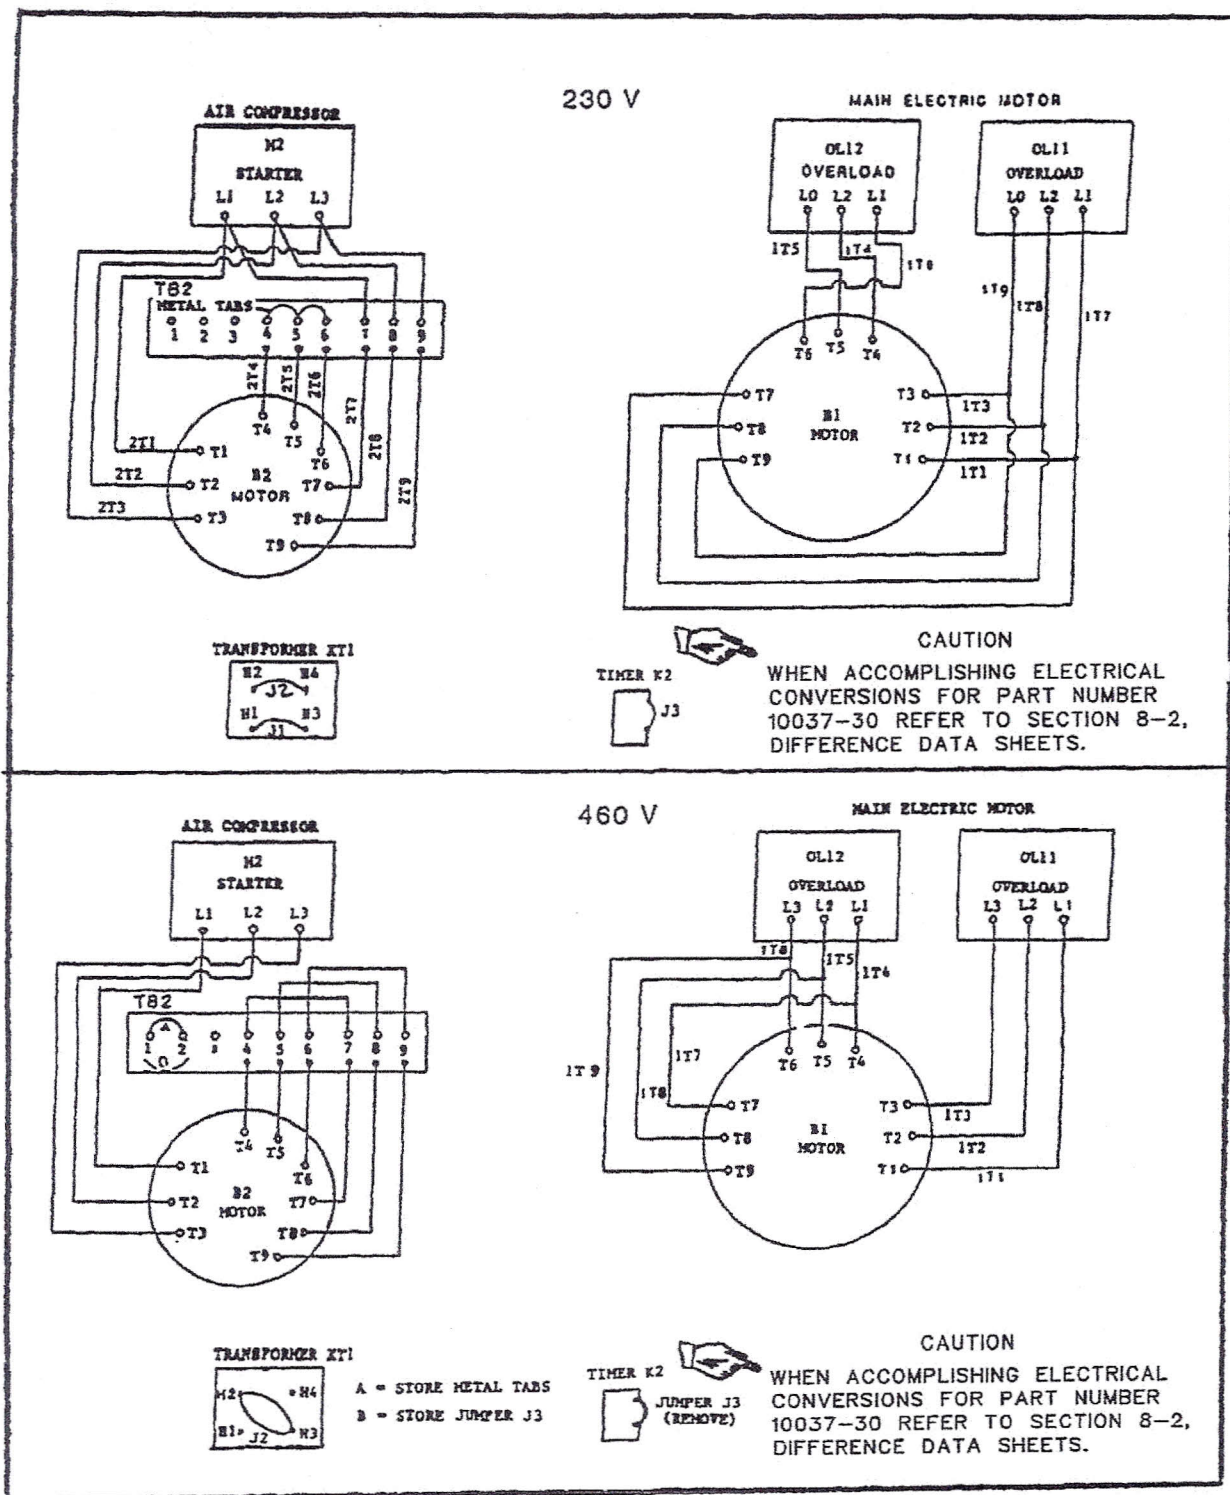

Figure 3-1. Electrical Conversion
3-9. OPERATION AT 230 V OR 460 V. The unit is designed for 230 V operation and can be converted to 460 V. Both conditions are explained below and shown in Figure 3-1. Prior to usage the user should check the electrical panel against Figure 3-1 to positively determine what state of operation (230 or 460) the unit is currently in. The entire conversion can be accomplished within the electrical panel Figure 4-5.
a. Main Electric Motor (Figure 3-1)
(1) Disconnect from overload OL11 the electric motor lines 7, 8, and 9. Reconnect line 7 to OL12 line 1 position, line 8 to OL12 line 2 position and line 9 to OL12 line 3 position.
(1) From TB2 remove metal jumper tabs located at terminals 4, 5, 6 and store in terminals 1 and 2 (top).
(2) On motor starter M2 (11, Figure 4-5) disconnect (at starter end only) wires coming from TB2 terminal 9, terminal 8, and terminal 7. Connect loose end of terminal 9 wire to TB2 terminal 6, terminal 8 to terminal 5, and terminal 7 to terminal 4 respectively (See Figure 3-1).
(1) Disconnect at terminal H1 (Figure 3-1) jumper (J1) coming from H3 and reconnect to H2.
(2) Disconnect at terminal H4 jumper (J2) coming from H2 and reconnect at H3.
d. When completed, wiring should be as shown on Figure 3-1, 460 V operation.
a. Transformer (Figure 3-1)
(1) Disconnect at terminal H2 (Figure 3-1) jumper coming from H3 and reconnect at H1.
(2) Disconnect at H3 jumper coming from H2 and reconnect at H4.
(1) On TB2 (14, Figure 4-5) disconnect wire on terminal 4 and reconnect at motor starter M2 line 1 position (Figure 3-1).
(2) On TB2 disconnect wire at terminal 5 and reconnect on motor starter M2 line 2 position.
(3) On TB2 disconnect wire at terminal 6 and reconnect on motor starter M2 line 3 position.
(4) On TB2 remove metal jumper tabs from terminals 1 and 2 and insert into terminals 4, 5 and 6.
c. Main Electric Motor (Figure 3-1)
(1) Disconnect from overload OL12 the electric motor lines 7, 8, and 9. Reconnect line 7 to OL11 line 1 position, line 8 to OL11 line 2 position, and line 9 to OL11 line 3 position.
d. When completed, wiring should be as shown on Figure 3-1, 230 V operation.